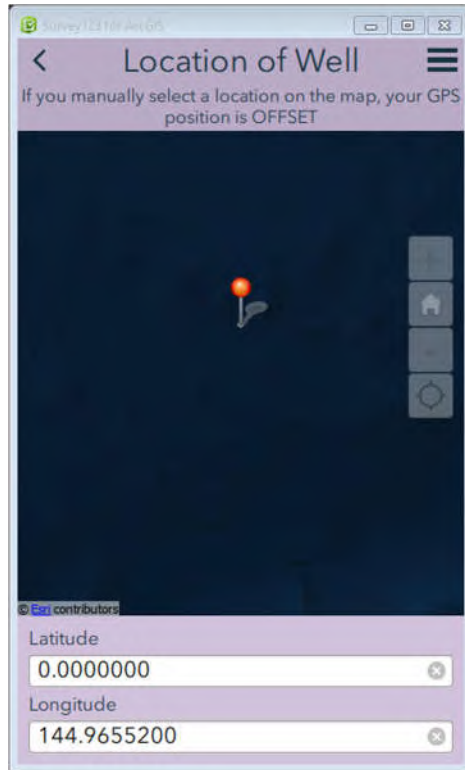

Figure 16- Latitude/ Longitude Entry in Map View
- The Location Bar shows the current latitude and longitude of the Location Pin. It also allows for manual input of latitude and longitude to relocate the Location Pin (Figure 16).